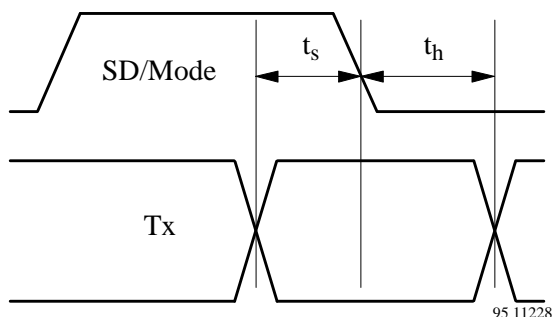

Figure 2.
*) See figure 2 "Mode switching"